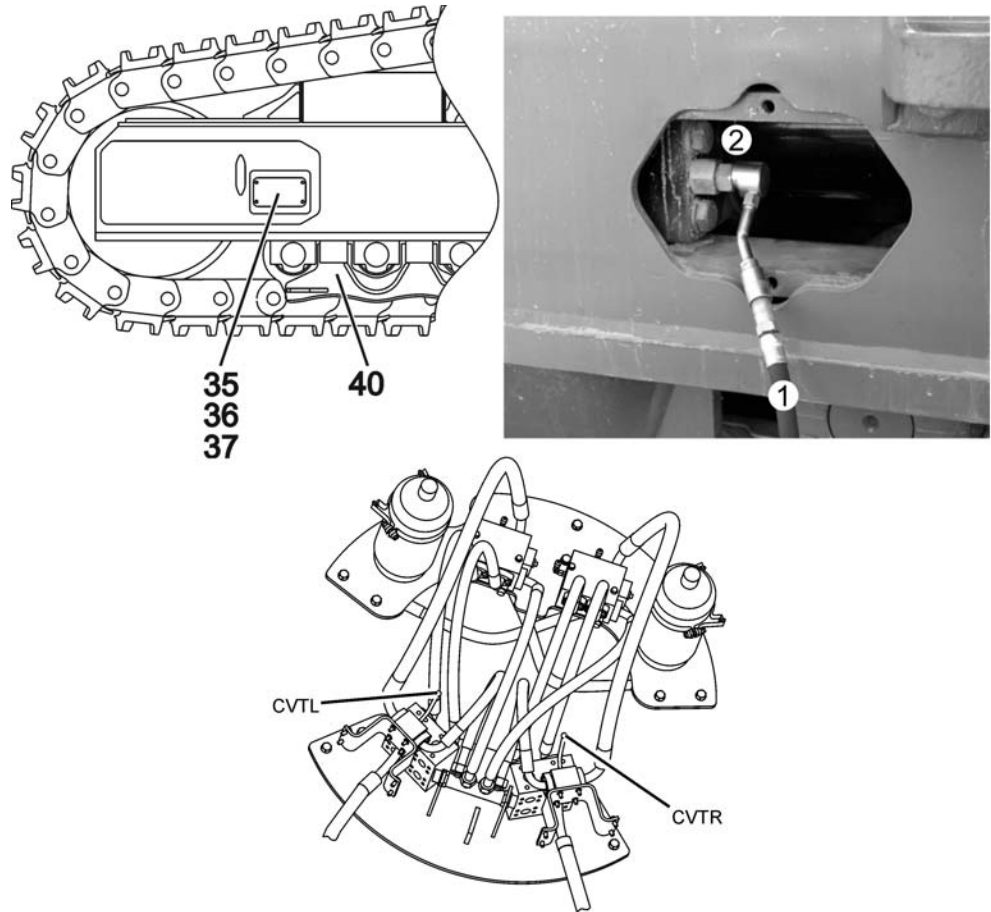

Fig. 5-62 Retensioning the track
- ▶ Carefully unscrew lubricating nipple **2** (see Fig. 5-62) by several thread pitches until the grease oozes out of the nipple's annular groove.